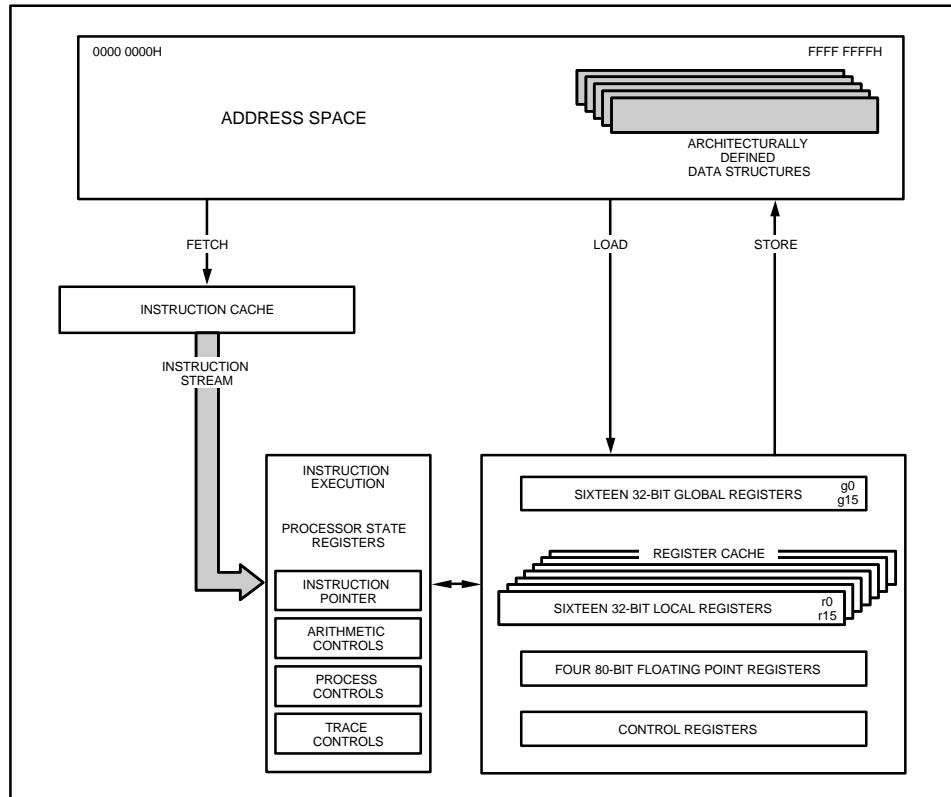

Figure 2. 80960KB Programming Environment
1. Large Register Set. Having a large number of registers reduces the number of times that a processor needs to access memory. Modern compilers can take advantage of this feature to optimize execution speed. For maximum flexibility, the 80960KB provides thirty-two 32-bit registers and four 80-bit floating point registers. (See Figure 2.)